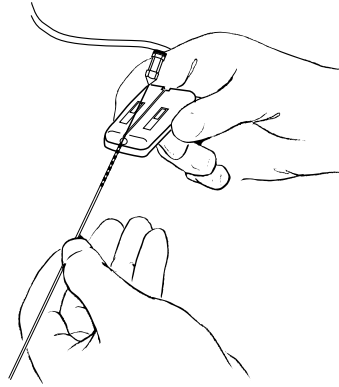

FIGURE 5
1. Insert the end of the lead completely into the trial cable connector assembly (see Figure 5).